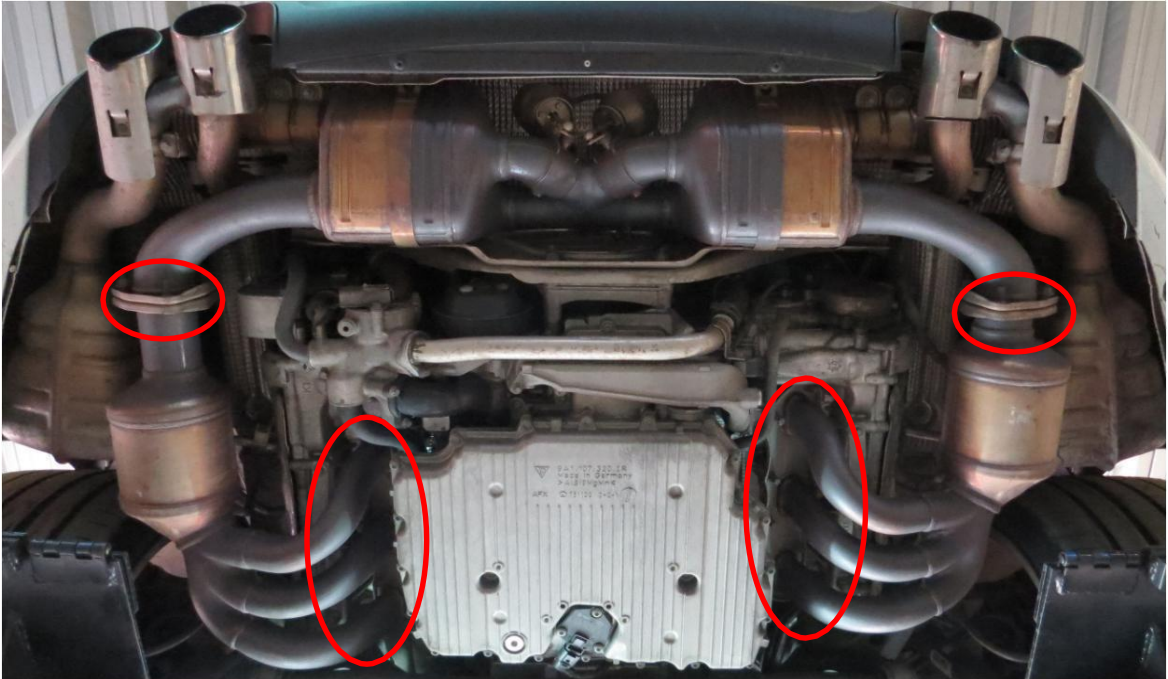

Fig 1-1
1. Remove the left and right oxygen sensors of the header exhaust by using 13mm, 22mm wrench and E14 star wrench. The wrench removes the red circle. (Fig1-1, 1-2)